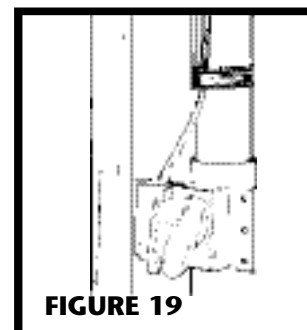

FIGURE 19
14. Refer to Figure 19. Tape wire to tubing to hold in place and insert through hole in inlet bracket.
2. Refer to Figure 19 Connect 2-conductor low voltage wire to terminal screws on back of wall inlet.